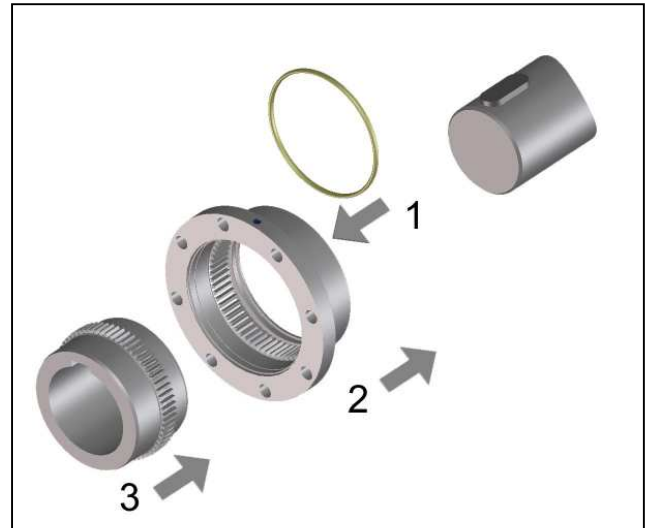
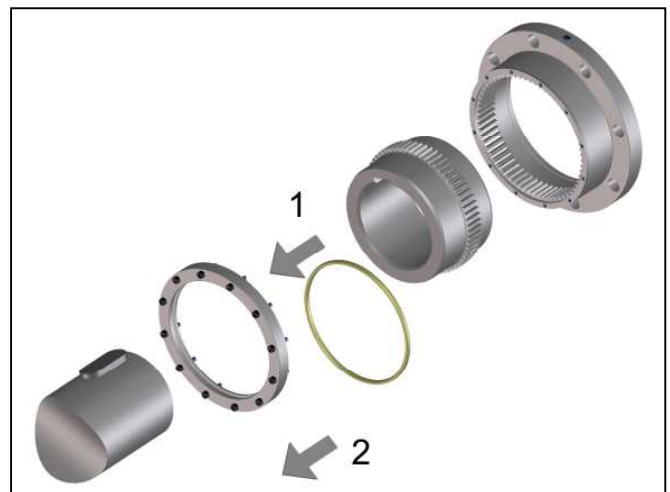

Fig. 4
Fig. 5
- Insert the slightly greased seals into the cleaned O-ring grooves in the housings (Fig. 4, pos. 1).
- Slide the housing halves in the correct direction over the free shaft ends (Fig. 4, pos. 2). For coupling **type ZEB** it is sufficient to push the housing covers with the inserted O-rings and the paper seals onto the shaft ends (fig. 5). Take care not to damage the seal rings.
- Push the coupling hubs onto the shaft ends as specified (Fig. 4, pos. 3 / Fig. 5, pos. 3). Make sure that the seal ring does not contact the heated hubs. **Pay attention to the asymmetrical gear teeth of the hubs!**